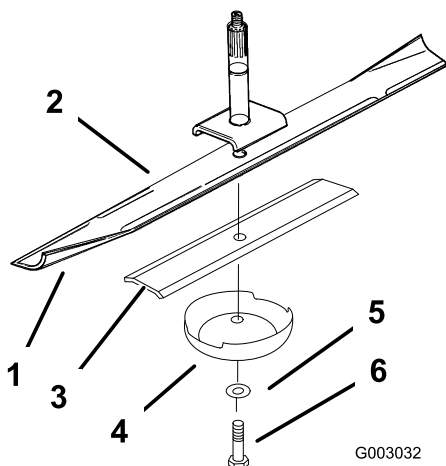
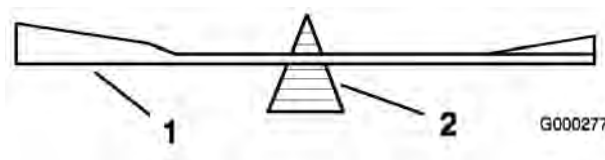

Figure 48
Figure 50
2. Remove the blade bolt, blade stiffener, washer, and blade from the spindle shaft (Figure 48).
2. Check the balance of the blade by putting it on a blade balancer (Figure 50). If the blade stays in a horizontal position, the blade is balanced and can be used. If the blade is not balanced, file some metal off the end of the sail area only (Figure 48). Repeat this procedure until the blade is balanced.
1. Install the blade onto the spindle shaft (Figure 48).
Important: The sail part of the blade must be pointing upward, toward the inside of the mower to ensure proper cutting (Figure 48).
2. Install the blade stiffener, flat washer and blade bolt (Figure 48).